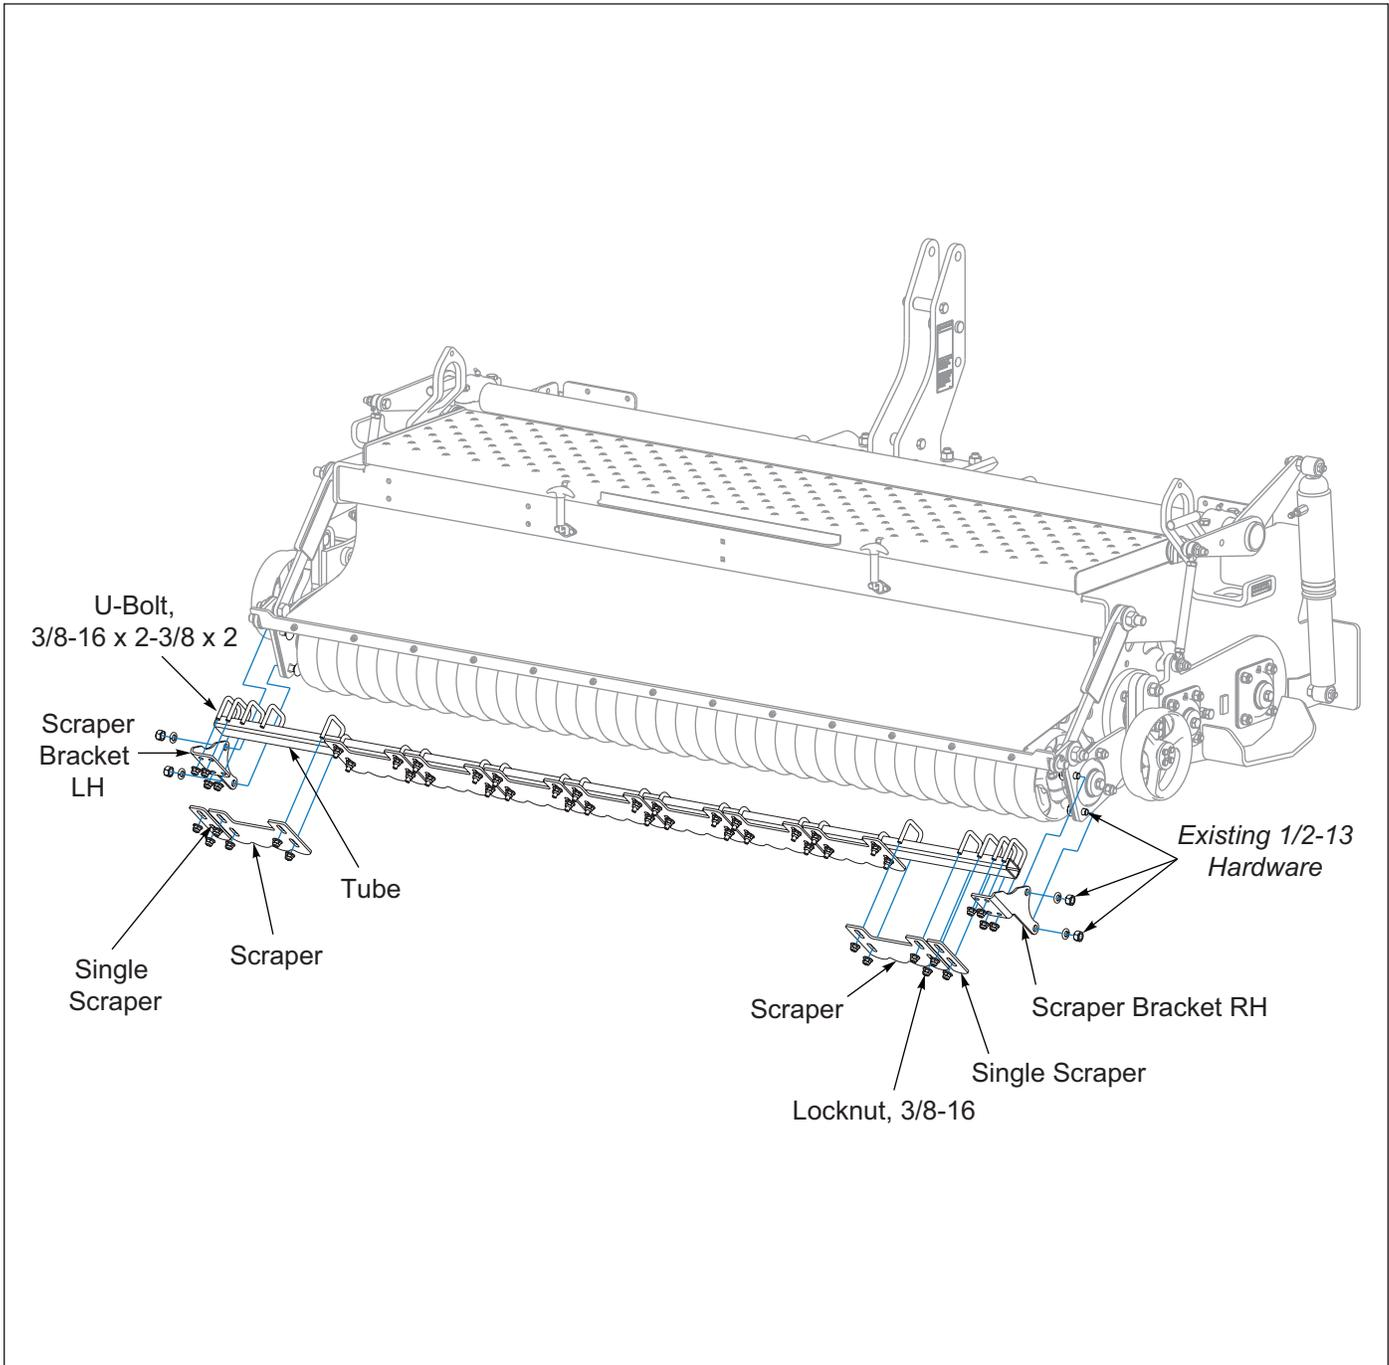

Figure 2-5: Rear Roller Scraper - Optional
1. With the Rear roller on level ground, remove the Rear Roller Bearings two rear 1/2-13 Nuts and Lock Washers and install the RH and LH Scraper Brackets. Secure by re-installing hardware. **See Figure 2-5.**